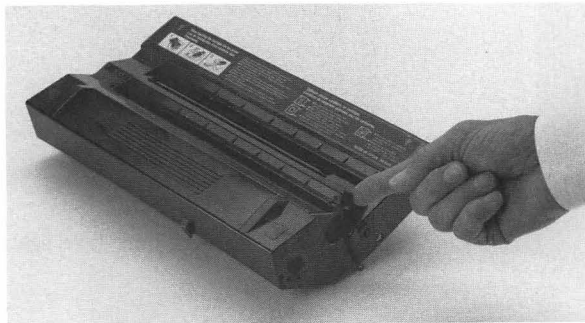

Figure 6-3 The light-blocking shutters
- Don't open the light-blocking shutters on the toner cartridge. (See Figure 6-3.)